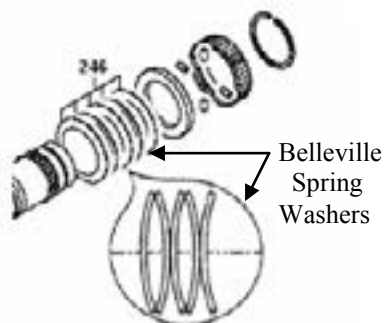

fig. 7
- 4, 87** Flared edge of seal (87) to face ball bearing (4) in assembly.
- 53, 56** Reassemble Belleville Spring washers (56) onto spindle (53) as shown in fig. 7.